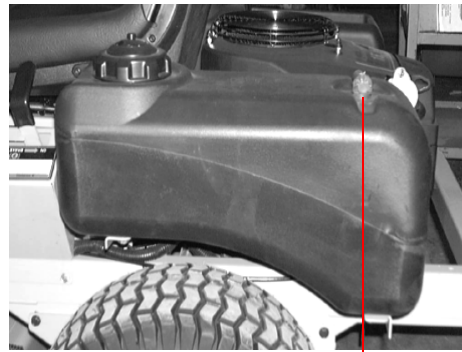

Figure. 4 *Fuel Shutoff Valve*
7. **Fuel Shutoff Valve:** (See Figure 4.) Located on top of the fuel tank. When turned in a clockwise direction until it stops, it will shut off the flow of fuel to the engine. When turned in a counterclockwise direction it will open and allow fuel to flow to the engine. Close this valve if you are not going to run the mower for a period of 30 minutes or more to prevent flooding the engine.